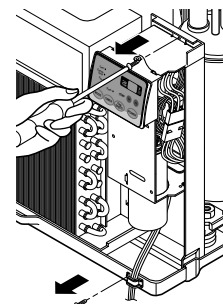

FIG. 3
2. Remove the screw which fasten the control box. (See Fig. 3)
3. Pull the control box from the barrier. (See Fig. 3)
7. Re-install the components by referring to the removal procedure. (See Fig. 3)